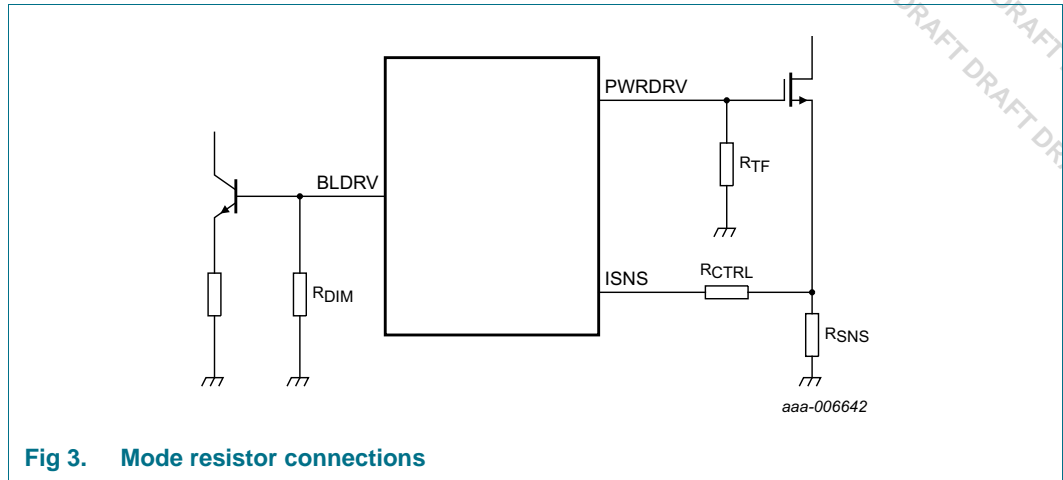

Fig 3. Mode resistor connections
The ISNS pin senses the voltage across the sense resistor, R_{SNS} , generated by the inductor current flowing through the external MOSFET and this resistor (see Figure 3).
Mode resistors R_{TF} and R_{DIM} at the PWRDRV and BLDRV pins are connected between the pin and ground. Mode resistor R_{CTRL} at the ISNS pin is connected between the pin and the external MOSFET source (see Figure 3).
- R_{SNS} is the sense resistor on pin ISNS (see Figure 3)